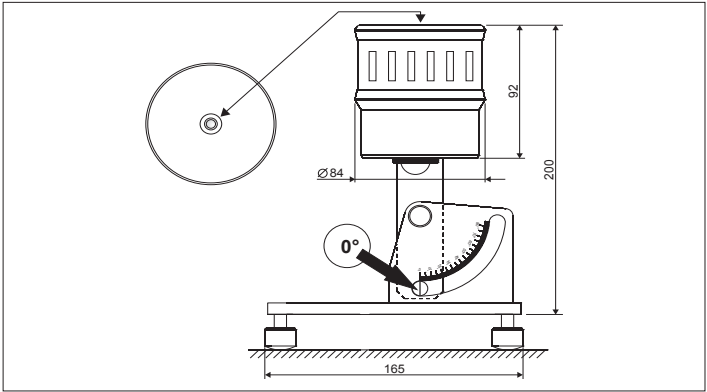

Fig.1 - Base for installation of the sensor on a horizontal plane
- 2 - Installation on the base LPSD18.O. The base allows the inclination of the sensor up to 80° respect to the vertical, so to fit it to the position of the sun to the latitude of the place of installation. Two adjustable feet and one fixed foot allow to put the sensor on an horizontal plane (Fig.1)